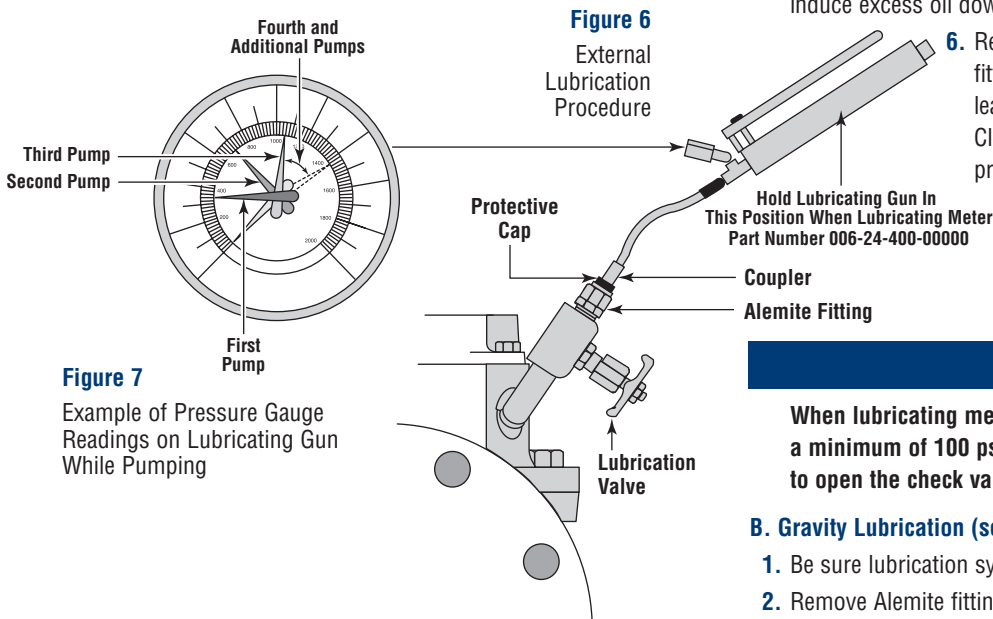

Figure 7
4. Begin pumping the gun lever, observing the pressure gauge while doing so. The gauge will indicate a higher pressure with each stroke until the internal pressure is overcome. When this occurs, the pressure gauge needle will bounce between two points (See Figure 7).